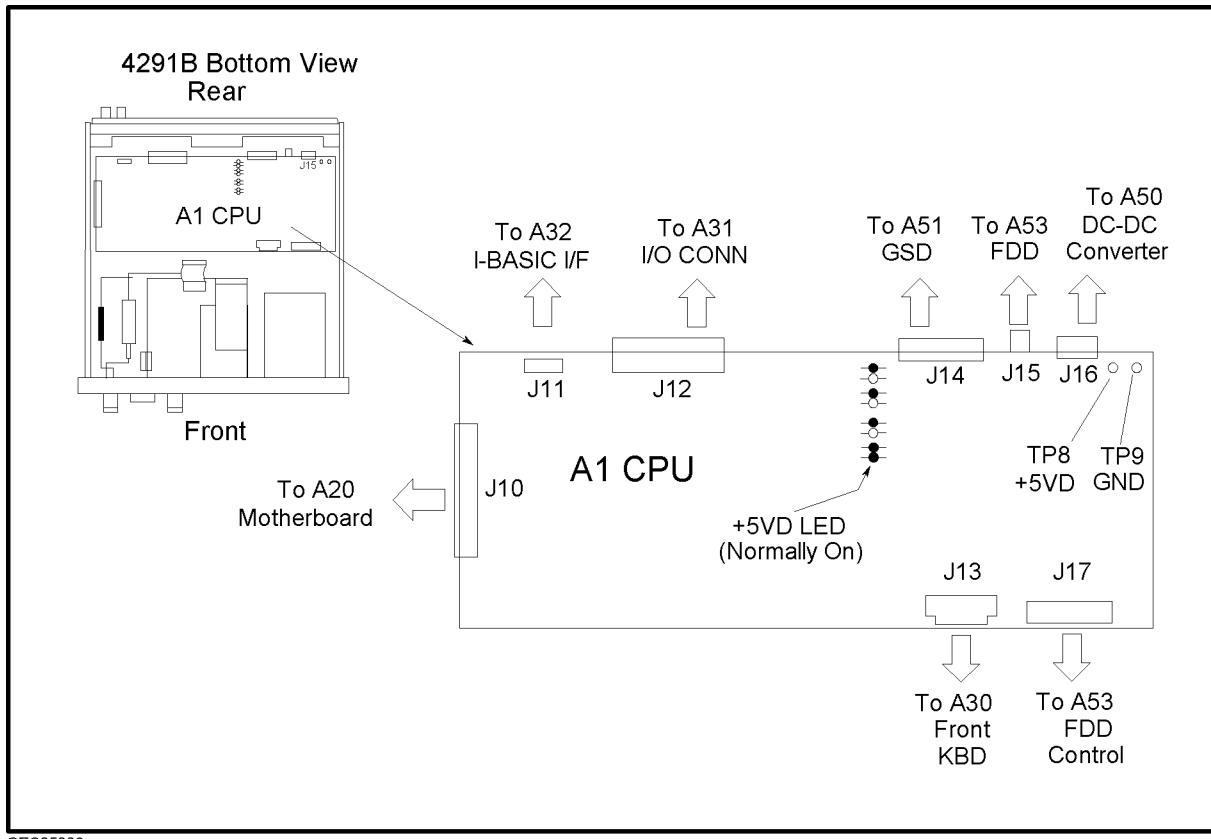

Figure 5-8. A1 CPU Connector Locations
- Disconnect cables from the A1 CPU's connectors, J10, J11 (if option 1C2 installed), J12, J13, J14, J16, and J17. The connector locations are shown in Figure 5-8